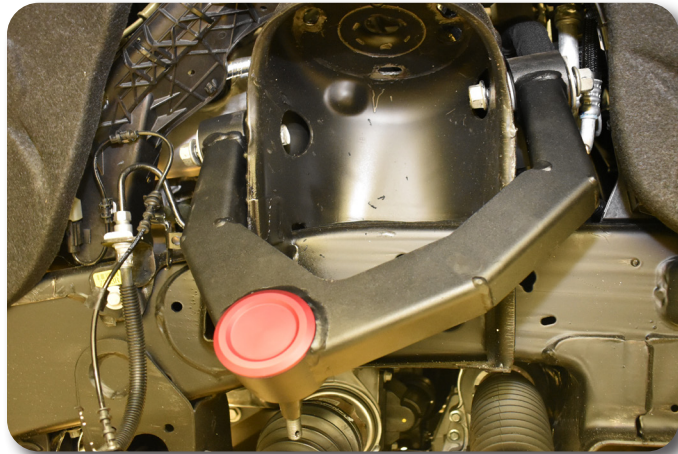

Figure 10
13. Install the new upper control arm to the vehicle using the factory hardware with the bolts running from the inside out **Figure 10**. Snug up hardware.